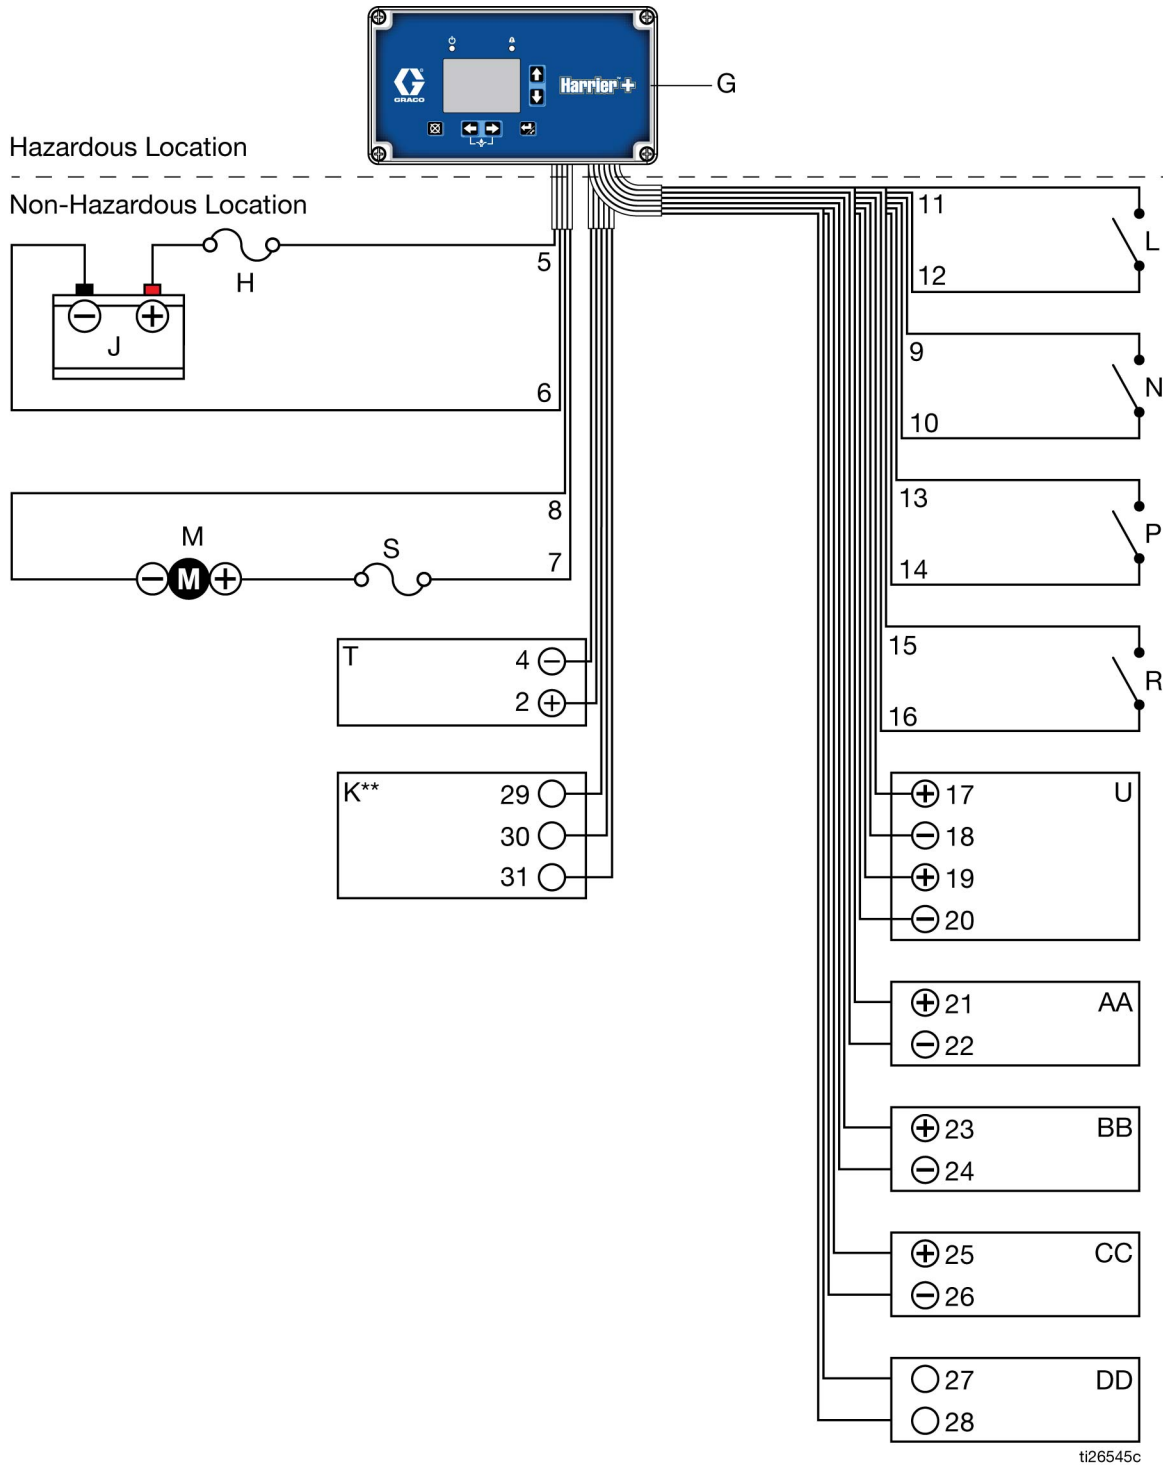

FIG. 2: Typical 12 or 24 VDC Installation
FIG. 2 is an example of 12 or 24 VDC installation. Your installation may differ from what is shown here. The Harrier+ controller (G), with wiring, is supplied by Graco. All other components are supplied by the customer. Contact your Graco distributor for assistance in planning a system to suit your needs.